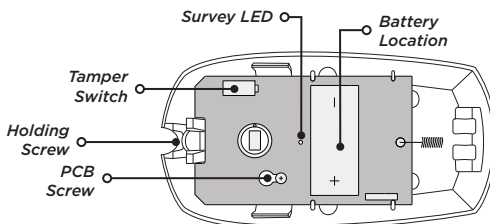

Figure 2: 1122 Housing and PCB
2. Observing polarity, place the battery in the holder and press into place. See Figure 2 for the battery location.
2. Press the tamper switch to send data to the receiver and determine if communication is confirmed or faulty. See Figure 2 for tamper switch and LED locations.
2. Remove the old battery and dispose of it properly. See Figure 2 for the battery location.